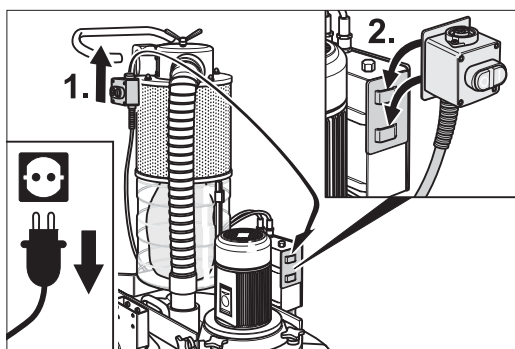

Fig. 25 Hook the on/off switch into the transport holder on the switch box.
- 3 Unhook the on/off switch from the chassis and onto the transport holder on the switch box (Fig. 25).